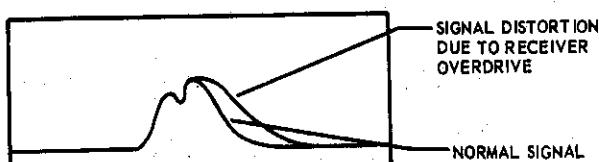

Figure 4-60. Attenuator Operation Overdriven Signal at Matched Gain
1. During autotrack operation it may become necessary to attenuate one of the LORAN pulses due to increased signal strength. An excessively large signal overdriving the receiver can show up in two ways while the channel is in the autotrack mode of operation. One method of detecting signal overdrive is to observe the function 3 display on the CRT and look for a distortion of the strong signal where its trailing edge is misaligned with respect to the normal signal's trailing edge. This is illustrated in figure 4-60.